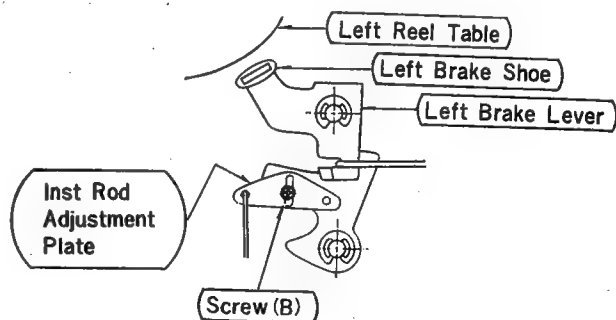

Fig. 24
2. The Right and Left Brakes should be pressed against the Right and Left Reel Tables, respectively, after the Pause Lever is turned low and the Pressure Roller moves away from the Capstan. This timing can be modulated by loosening the Screw (B) shown in Fig. 24 and adjusting the Inst. Rod Adjusting Plate. After the adjustment, the Screw (B) must be locked with paint.